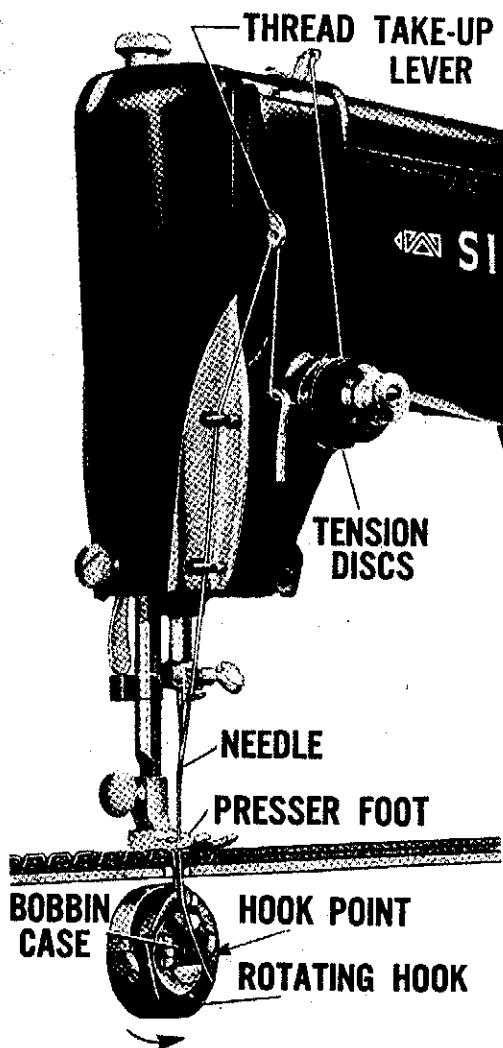

Fig. 9. Bobbin Thread Enclosed by Needle Thread
**Fig. 9** shows the **third stage**. The loop of the needle thread has been **cast off** the hook and the take-up lever is rising quickly to take up all the slack thread.